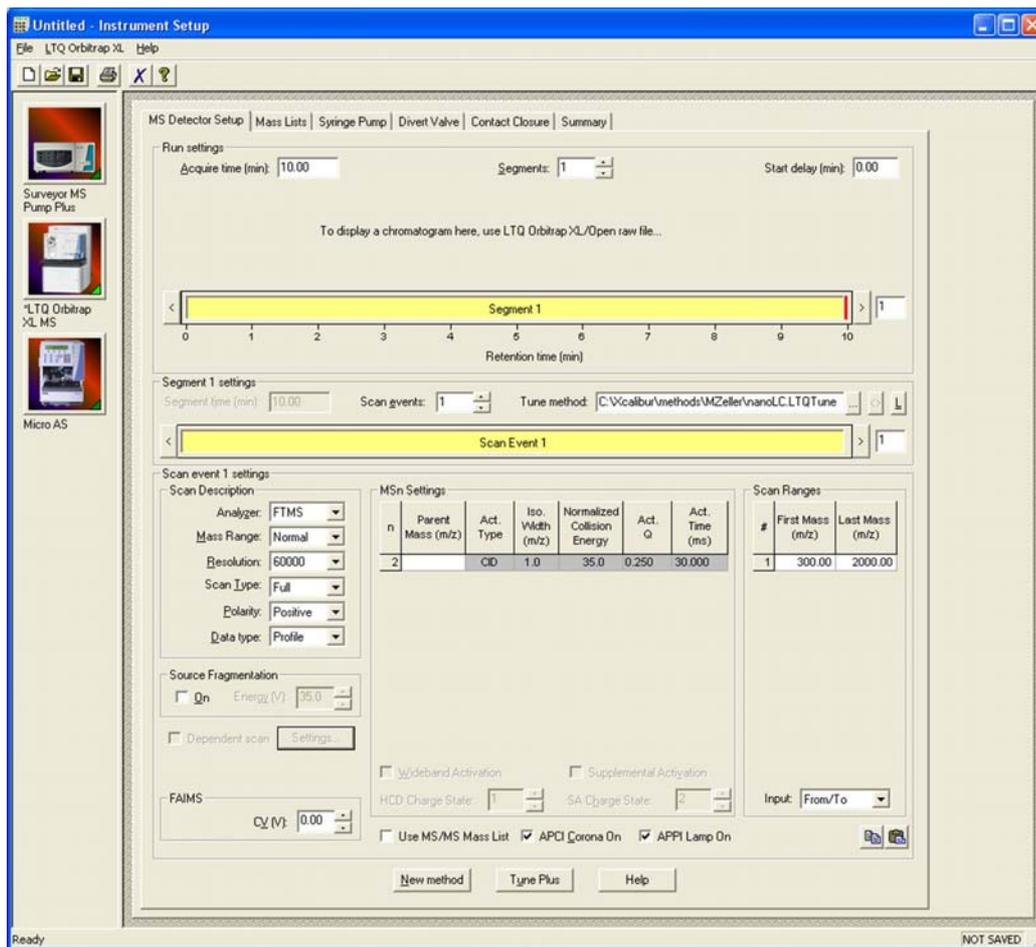

Figure 8-33. Xcalibur MS Detector Setup view
4. Click the **MS Detector Setup** tab if this is not already the selected tab in the Untitled-Instrument Setup window. See Figure 8-33.